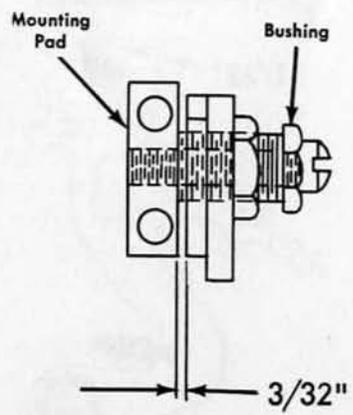

FIGURE 8
2. Check that distance between contact assembly mounting pads on the side frame and the contact mounting bar is approximately  $\frac{3}{32}$  inch (Figure 8).